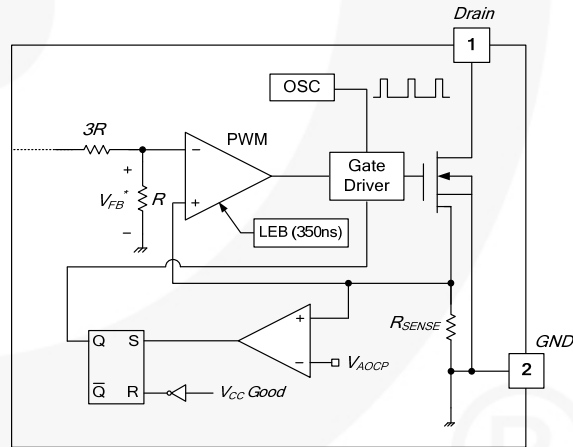

Figure 21. Abnormal Over-Current Protection
4.2 Abnormal Over-Current Protection (AOCP): When the secondary rectifier diodes or the transformer pins are shorted, a steep current with extremely high di/dt can flow through the SenseFET during the minimum turn-on time. Even though the FSL138MRT has overload protection, it is not enough to protect the FSL138MRT in that abnormal case; due to the severe current stress imposed on the SenseFET until OLP is triggered. The internal AOCP circuit is shown in Figure 21. When the gate turn-on signal is applied to the power SenseFET, the AOCP block is enabled and monitors the current through the sensing resistor. The voltage across the resistor is compared with a preset AOCP level. If the sensing resistor voltage is greater than the AOCP level, the set signal is applied to the S-R latch, resulting in the shutdown of the SMPS.